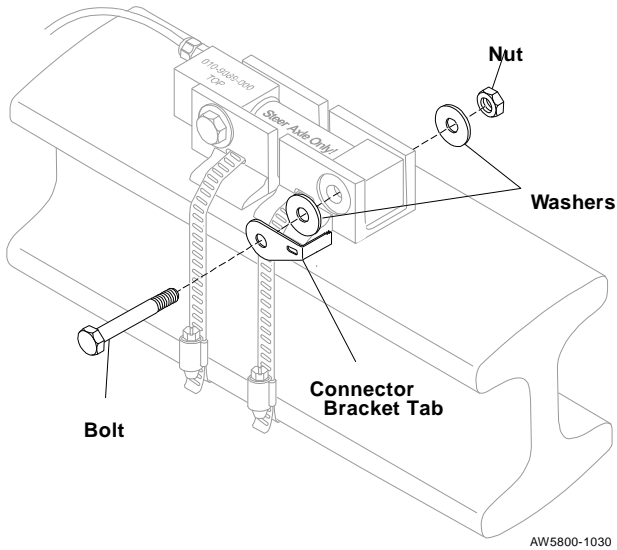

Figure 11. Installing the Connect Bracket
7. Ensure tongue and tab extends around the end of the sensor. See Figure 11. Place a hex nut (p/n: 132-0014-000) on each bolt and hand tighten.
1. Slide the connector assembly onto the connector bracket tab mounted on the deflection sensor bracket, by inserting the tab into the grooves on the bottom side of the connector receptacle. See Figure 11. Ensure the connector assembly slides completely on the mounting tab.